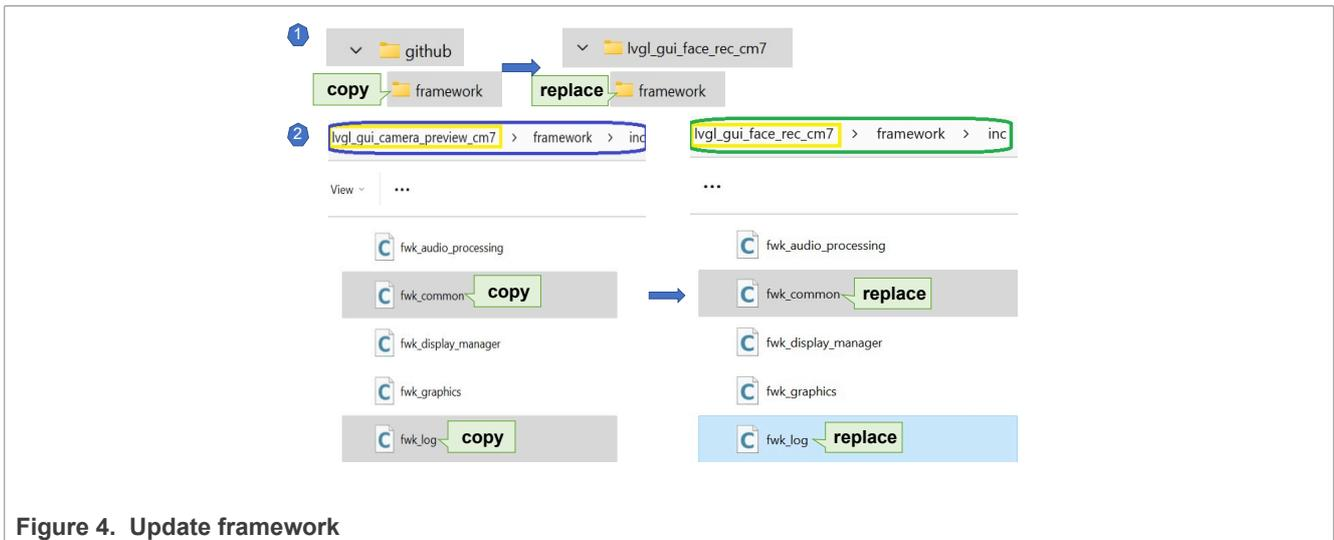

Figure 4. Update framework
- Replace the framework folder with the copy of V1.1.2 from GitHub except for the files `fwk_log.h` and `fwk_common.h` under `inc\` as they have been modified for the series of application note. The operations are shown in Figure 4: